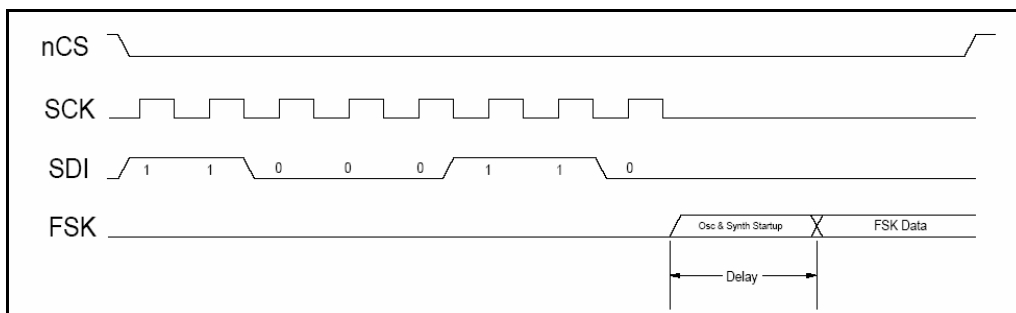

Figure 7. Data Transmit through FSK pin
Data may also be sent through the FSK pin (16). When the Transmit Command is issued the Osc and Synthesizer are automatically enabled. If the Osc and Synthesizer are not running, there must be a delay before sending out the first bit in order to allow the Osc to stabilize and the Synthesizer to lock. See Figure 7 timing below.